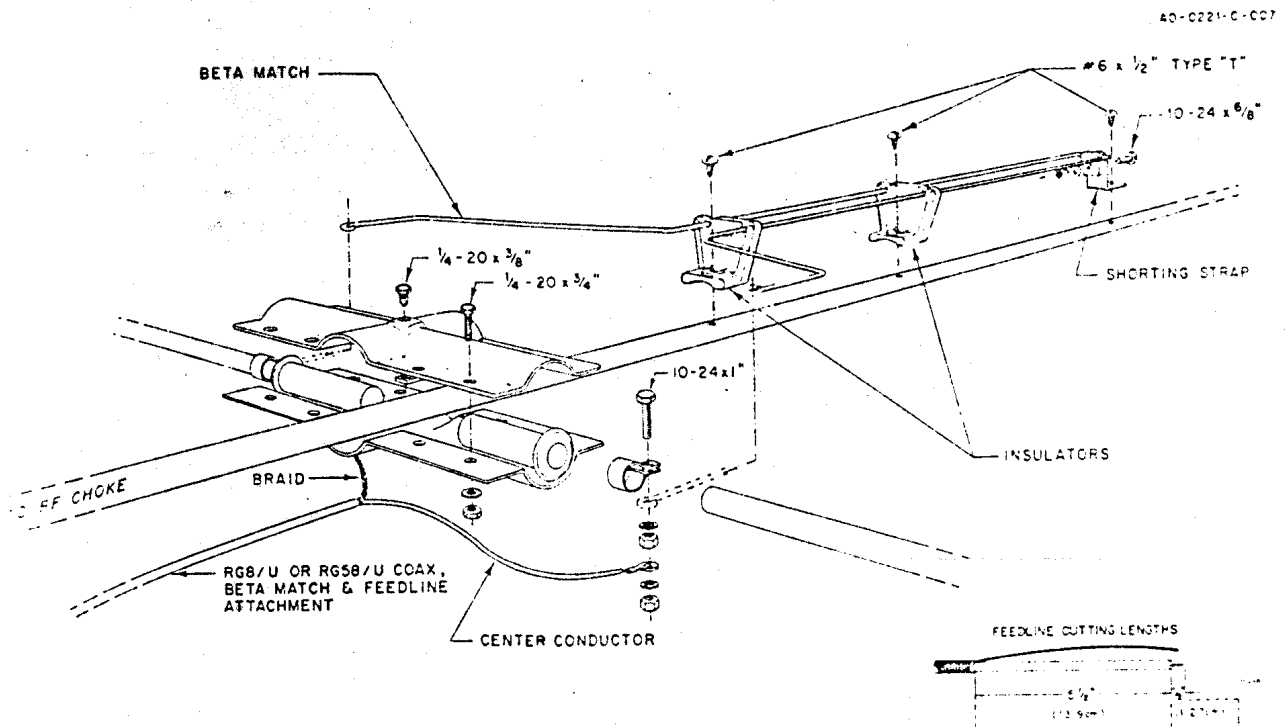

Figure 7. Beta Match/Feedline Attachment
- () Select the beta match support insulators. Install as shown in Figure 7.